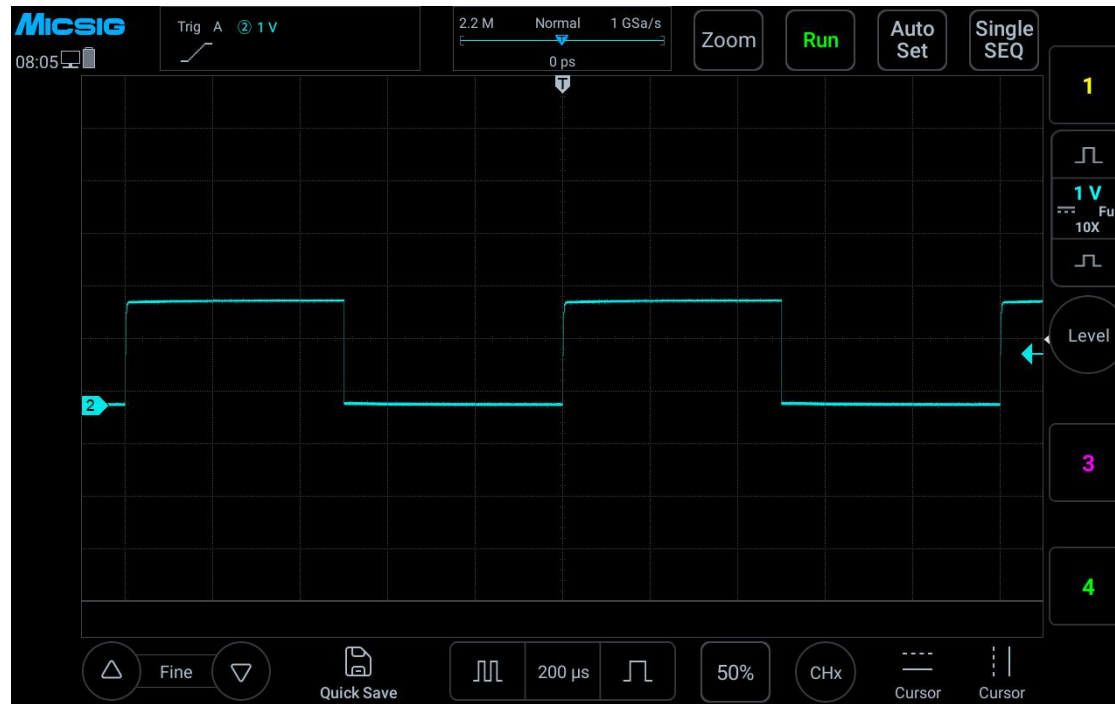

Figure 2-12 Probe Compensation
- 5) Tap  button or manually adjust the waveform vertical sensitivity and horizontal time base. Observe the waveform. As shown in Figure 2-12.